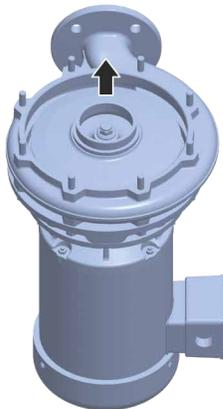

Fig. 56 Removing the casing cover (example: herborner.F-N)
Remove the casing cover (Fig. 56/1).
4. Remove the gasket (Fig. 56/2) and place to one side for later assembly.